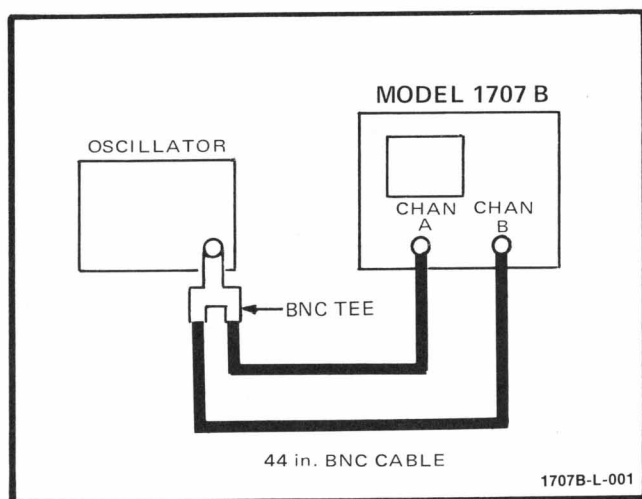

Figure 5-4. A + B Mode Test Setup
- Connect instruments as shown in figure 5-4.
- a. Connect instruments as shown in figure 5-4.